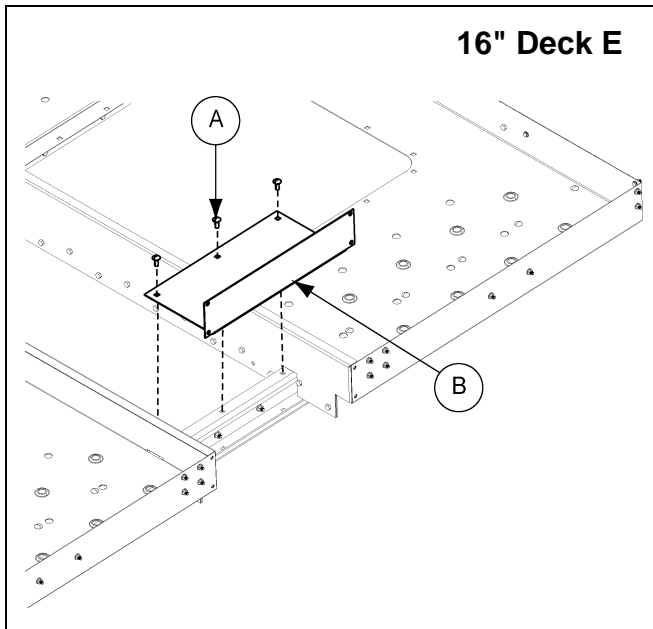

Figure 8K Deck Adapter Bracket to Channel
- Using three (3) 3/8" x 1" carriage bolts (S-3585) and 3/8" flange nuts (S-10028), install the adapter bracket to cross deck support channel at the up-leg end of the platform between Deck A and side toe board and between Deck C and side toe boards. (See Figure 8K.)